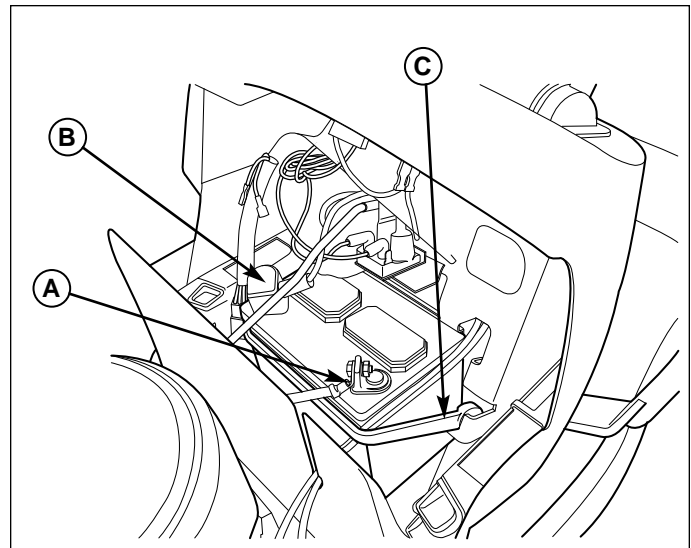

Figure 17. Battery
1. Disconnect the cables from the battery, negative cable first (A, Figure 17).
2. Remove the battery hold-down (C) and battery.
5. Reinstall the battery in the battery compartment, and secure with the battery hold-down (C).
6. Reattach the battery cables, positive cable first (B).